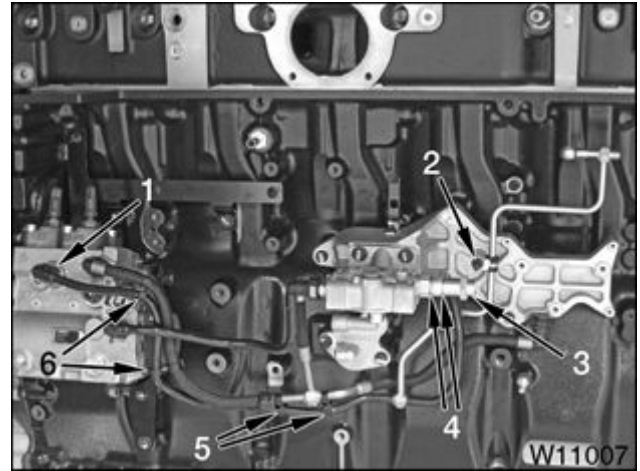

Figure 283 Fuel return to tank tube assembly
4. Tighten the fuel drain tube M8 stud bolt (Figure 283) (item 2) to standard torque (page 561).